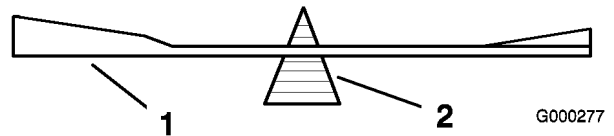
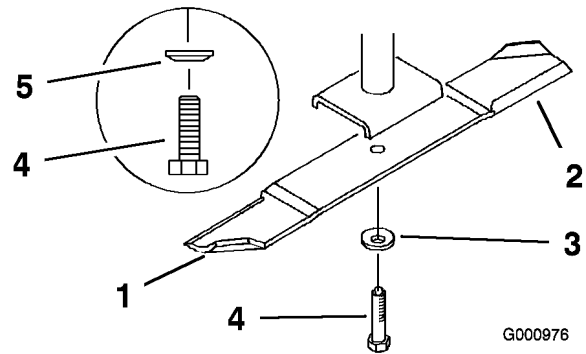

Figure 84
Figure 85
2. Remove the blade bolt, spring disk and blade from the spindle shaft (Figure 85).
1. Install the blade onto the spindle shaft (Figure 85).
2. Install the spring disk and blade bolt. The spring disk cone must be installed toward the bolt head (Figure 85). Torque the blade bolt to 85-110 ft-lb (115-150 N•m).
2. Check the balance of the blade by putting it on a blade balancer (Figure 84). If the blade stays in a horizontal position, the blade is balanced and can be used. If the blade is not balanced, file some metal off the end of the sail area only (Figure 85). Repeat this procedure until the blade is balanced.